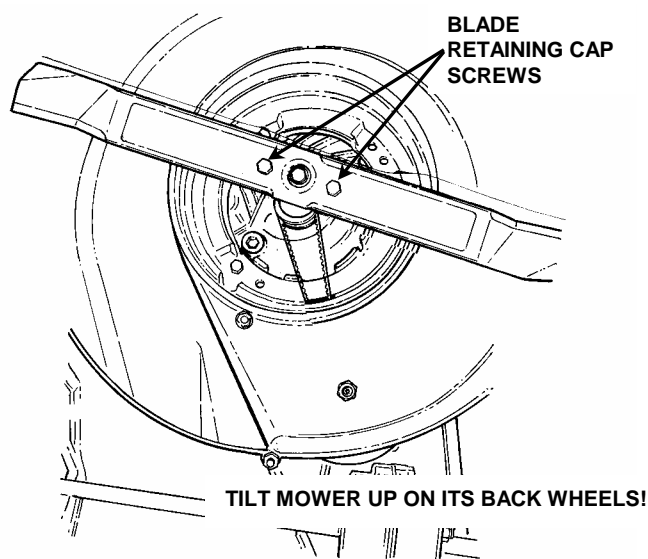

FIGURE 3.2
2. Tilt mower up on its rear wheels for access to the blade cap screw. See Figure 3.2.
3. Check torque of blade retaining cap screw. Recommended torque should be 40 ft. lbs. See Figure 3.2.